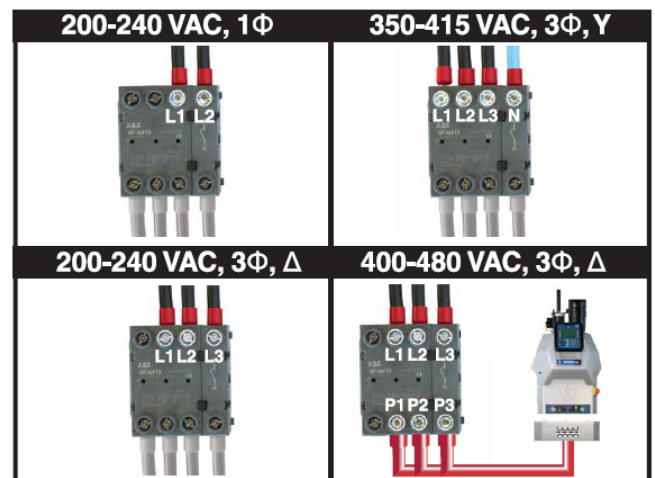

FIG. 16
7. Connect L1, L2, L3, and N as shown in FIG. 16. Not all models use all 4 wires.